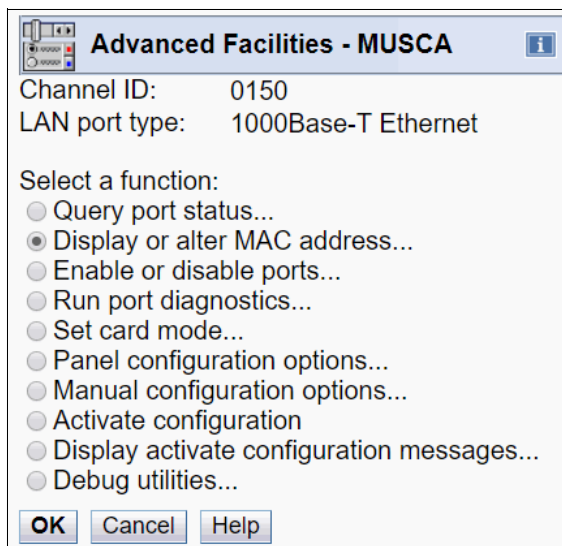

Figure 6-23 Display or alter MAC address
3. The Advanced Facilities window opens (see Figure 6-23). Select **Display or alter MAC address** and then, click **OK**.